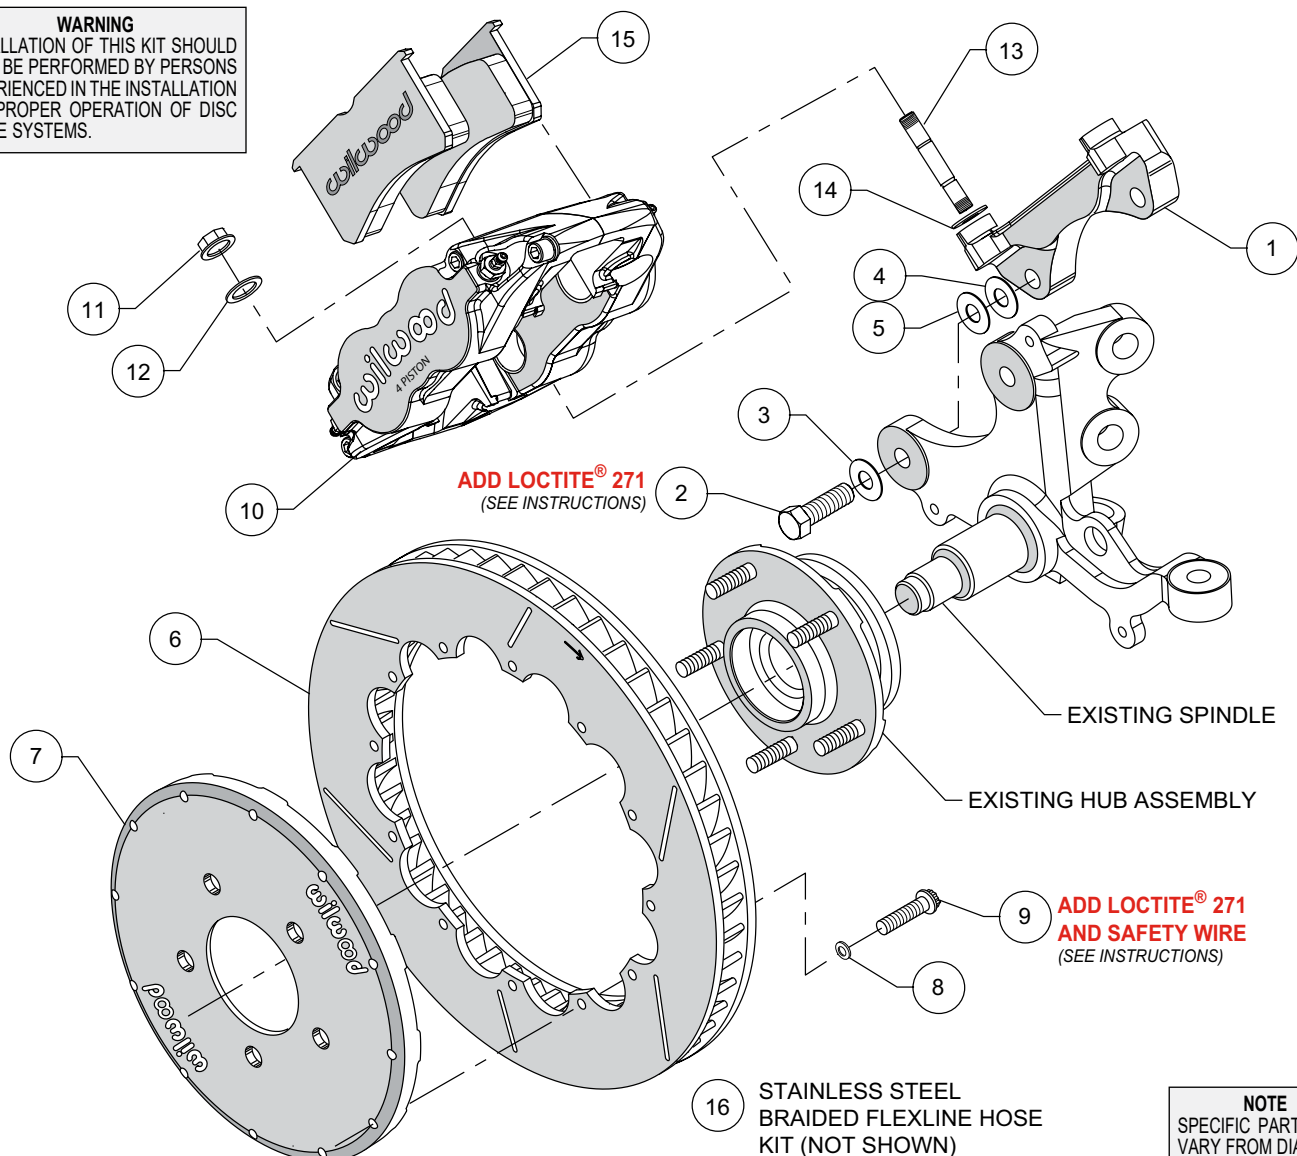
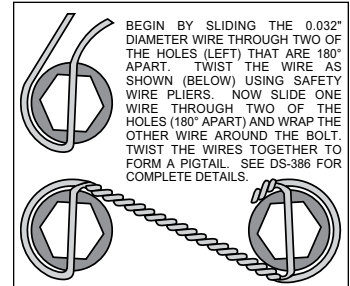

Figure 1. Typical Installation Configuration
Figure 3. Safety Wire Diagram
Assembly Instructions (numbers in parenthesis refer to the parts list and Figure 1 on the preceding page):
- The caliper mount bracket (1) should initially be installed with clean, dry threads on the mounting bolts. Orient the bracket as shown in Figure 1, and install using bolts (2) and washer (3). Initially place one .033 thick shim (4) on each bolt between the bracket and upright, Figure 1. Temporarily tighten the mounting bolts. Later, after the caliper alignment has been checked, the mount bolts will be secured using red *Loctite*® 271.
- Orient the rotor (6) and the hat (7) as shown in Figure 1 and Photo 1. Attach rotor to hat using bolts (9) and washers (8). Apply red *Loctite*® 271 to the bolt threads and torque to 155 in-lb using a criss-cross pattern. Safety wire bolts using standard 0.032 inch diameter stainless steel safety wire as shown in Figure 3. Refer to Wilwood's data sheet DS-386 (available at www.wilwood.com/Pdf/DataSheets/ds386.pdf) for complete safety wire installation instructions.
- NOTE:** This kit contains distinct right and left hand calipers that must be mounted in a specific direction, as described below. Initially place one .035" thick shim (14) on each stud (13) as shown in Figure 1 and Photo 2. Mount the caliper (10) onto the bracket (1) using lock nuts (11) and washers (12), Figure 1. Ensure that the caliper is mounted so that the largest pistons are at the rotor exit end of the caliper, in relation to the direction of rotor rotation. Temporarily tighten the lock nuts and view the rotor through the top opening of the caliper. The rotor should be centered in the caliper, Photo 3. If not, adjust by adding or subtracting shims (4 and/or 5) between the bracket and the upright. Always use the same amount of shims on each of the two mounting bolts. Once the caliper alignment is correct, remove the bracket mounting bolts one at a time, apply red *Loctite*® 271 to the threads, and torque to 60 ft-lbs.